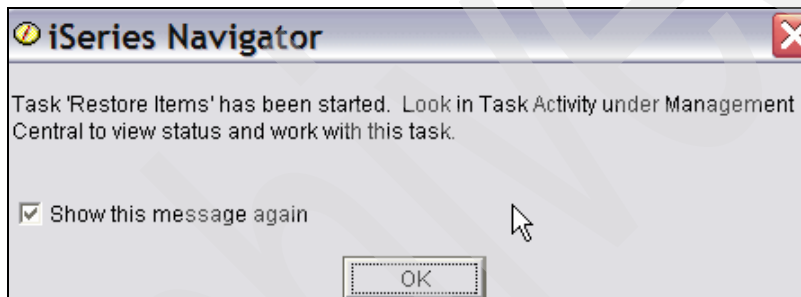

Figure 5-96 Restore Domino data with BRMS, Restore started
16. Figure 5-96 shows that the Restore Items task is started. Click **OK**.